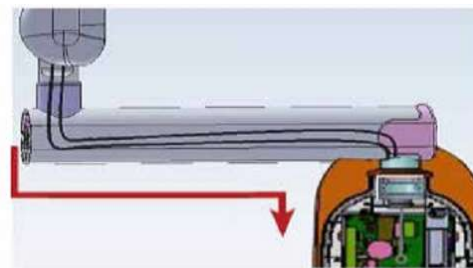

Figure 30
- Route the cable into straight arm till it comes inside the base unit by pulling the guide wire as shown in Figure 30.